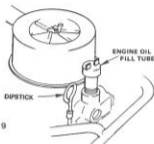

FIGURE 9
1. This engine has been shipped filled with summer weight oil. Check Engine Oil Level with Tractor on level ground. Wipe Dipstick (Fig. 9) clean, screw it in tight for a few seconds, remove and read Oil Level. If necessary, add Oil until "FULL" mark is reached.